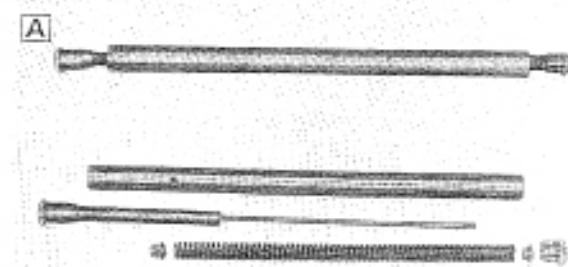

Fig. 4-50
- The front fork pipe complete with the damper unit can be removed from the bottom case as shown in Fig. 4-50 A.